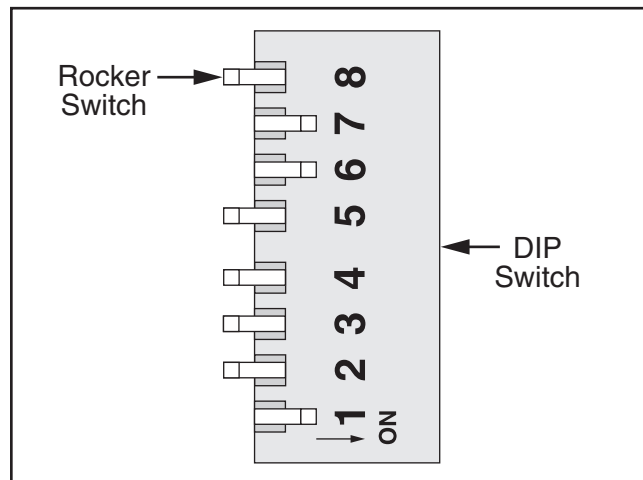

Figure 49. DIP switch configuration.
3. Compare each stepper driver DIP switch configuration to diagram in **Figure 49**.